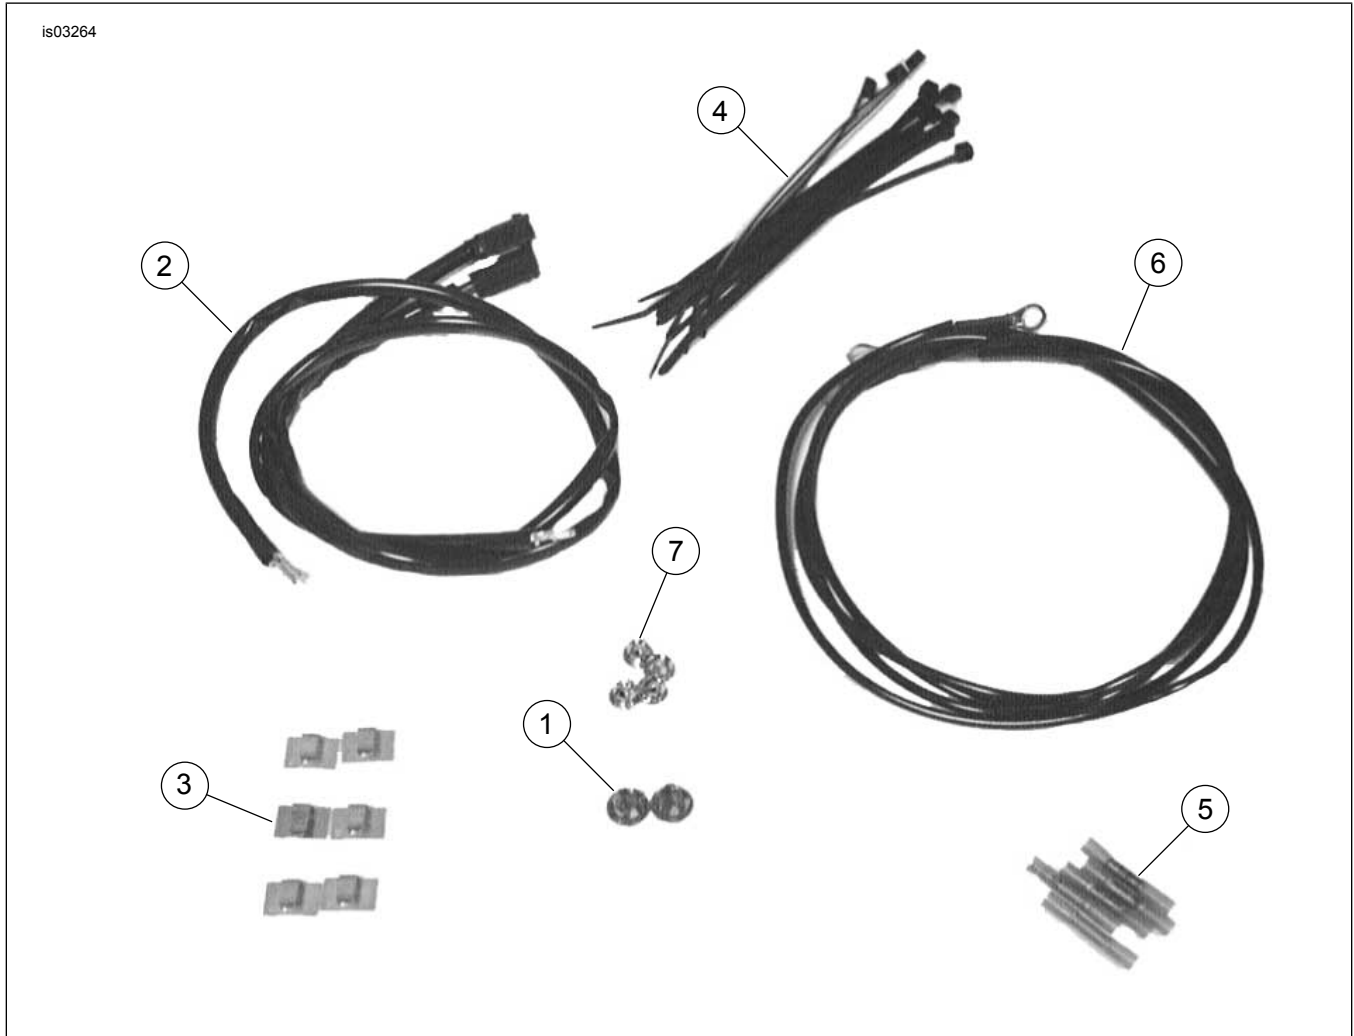

Figure 19. Service Parts: Turn Signal Wiring Kit (72509-00)
- a. Measure and cut a section of wire from the wire harness (Figure 19, Item 2) provided in kit.
- c. Using butt connectors (Figure 19, Item 5), splice jumper between original wire and terminal end.